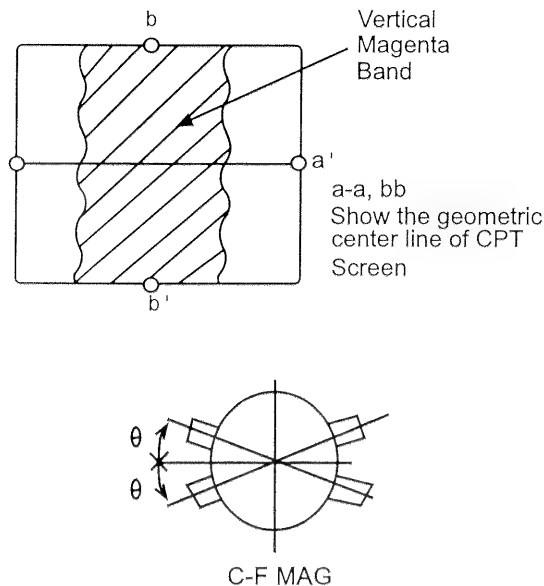

FIGURE 1-3-2
- (2) Adjust Focus coarsely.
- (3) Adjust Convergence coarsely according to item 1-4 and 1-5.
- (4) Receive Circle Pattern signal and check that Contrast and Brightness are maximum.
- (5) Receive magenta signal. When the magenta signal is not available, short-circuit between the base and emitter of Q855 and set to magenta.
- (6) Press DY fully against CPT funnel and turn the purity magnet so that the vertical magenta band comes to the center of the picture (Fig. 1-3-1). Check that color unevenness of both sides are approximately equal at this time. The openings of the purity magnet should be symmetric (Fig. 1-3-2).